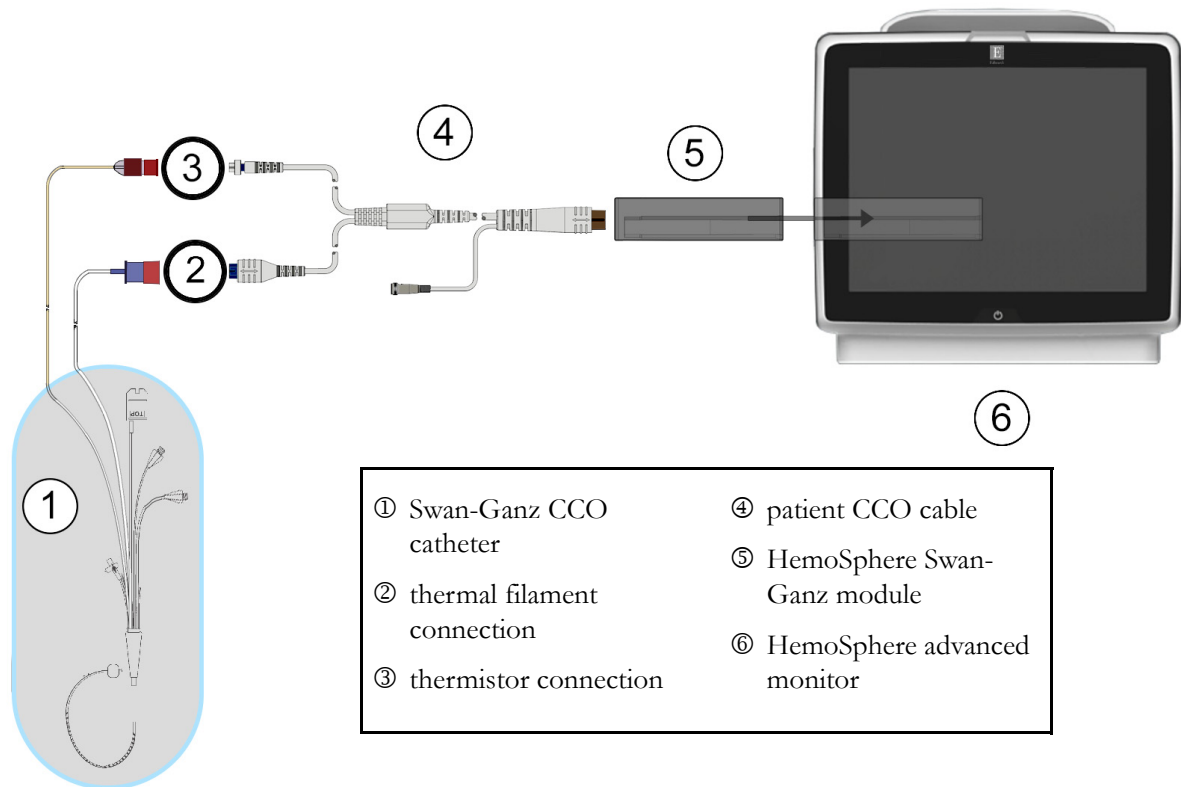

Figure 9-3 CO connection overview
- 2 Attach the catheter end of the patient cable to the thermistor and thermal filament connectors on the Swan-Ganz CCO catheter. These connections are emphasized as numbers ② and ③ in figure 9-3 on page 99.